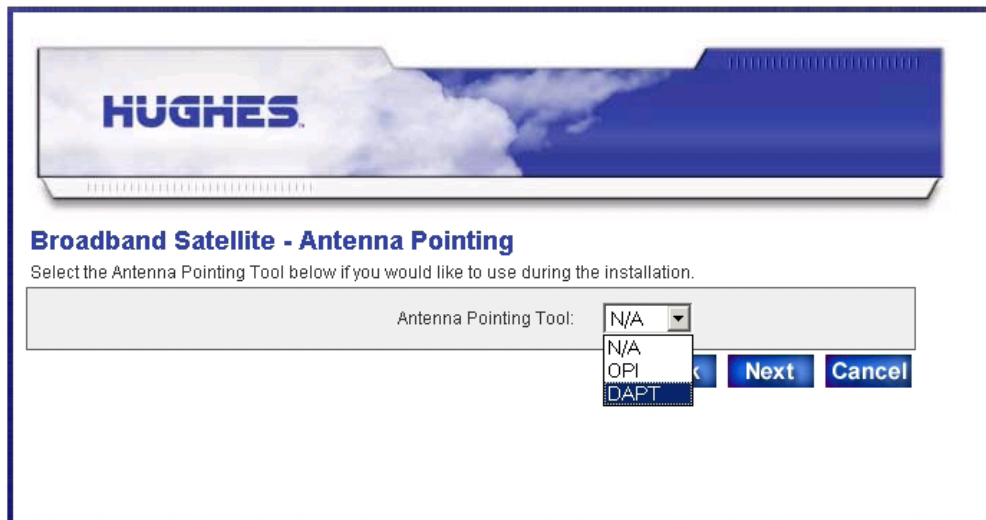

Figure 46: Antenna pointing screen
3. Click **Antenna Pointing**. The Antenna Pointing screen appears as shown in *Figure 46: Antenna pointing screen* on page 55.